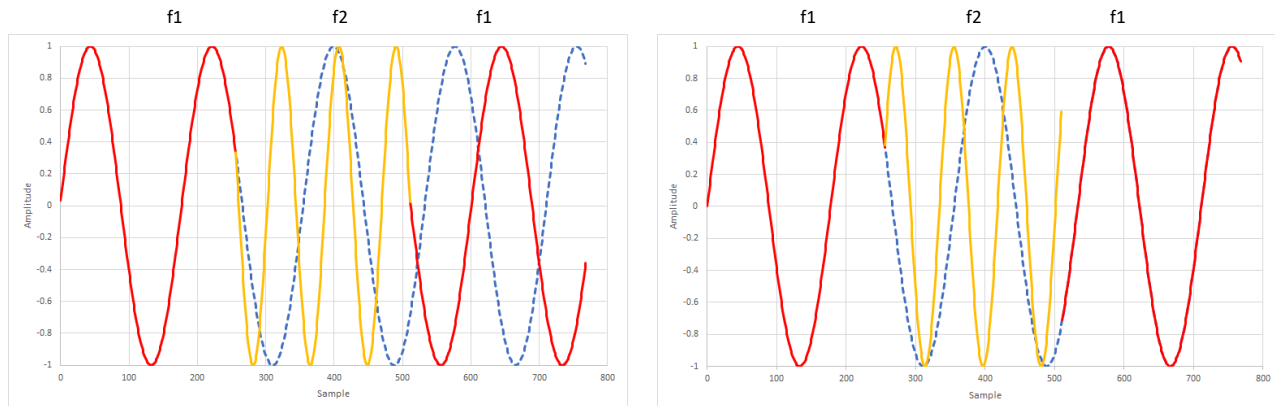

Figure 8-55. Phase Continuous (left) and Infinite Phase Coherent (right) NCO Frequency Switching
1. *Phase Continuous NCO* :During a NCO frequency change, the NCO phase gradually adjusts to the new frequency as shown in Figure 8-55 (left). The 'dashed' line shows the phase of original f_1 frequency.
2. *Infinite Phase Coherent NCO*: With a phase coherent NCO, all frequencies are synchronized to a single event using SYSREF. This enables an infinite amount of frequency hops without the need to reset the NCO as phase coherency is maintained between frequency hops. This is illustrated in Figure 8-55 (right). When returning to the original frequency f_1 the NCO phase appears as if the NCO had never changed frequencies.